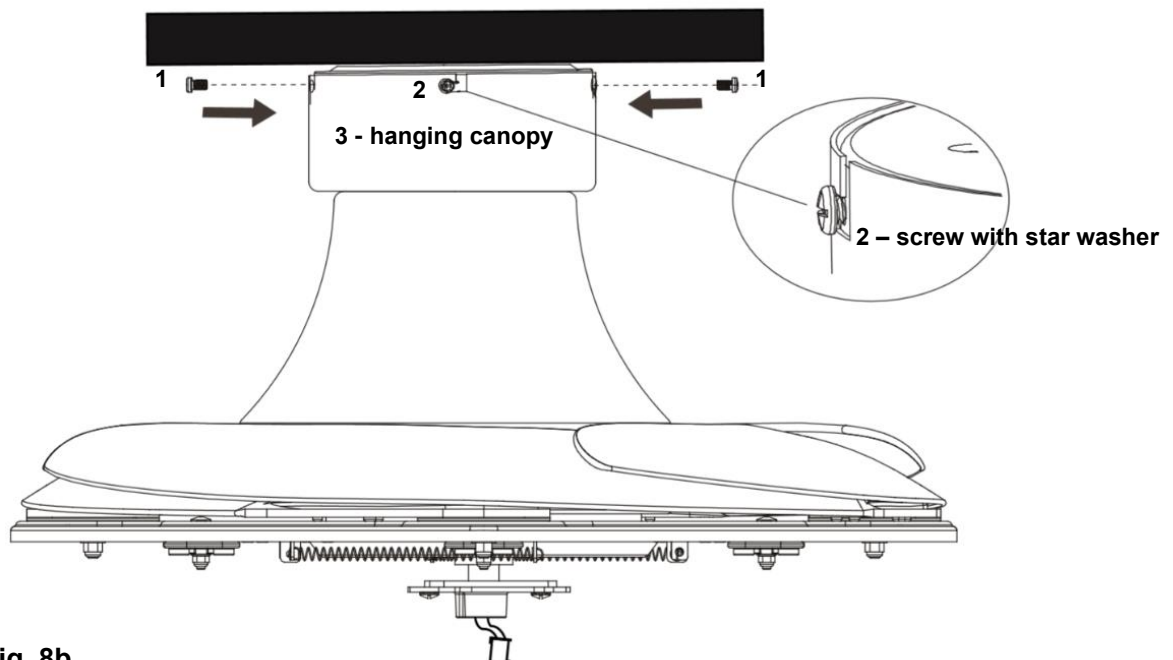

Fig. 8b
- Lift the hanging canopy (3) of the fan assembly up to the mounting bracket and let the L-shape slot on the hanging canopy (3) go through the two canopy screws with star washer (2). (**Fig.8b**)
- Turn the hanging canopy (3) until it locks in place at the end section of the L-shape slot, ensure the star washer are between the hanging canopy (3) and screw head. Secure it by tightening the two canopy screws with star washer (2).
- Secure and tighten the canopy screws (1) to the mounting bracket. The hanging canopy (3) shall have 4 screws (1) & (2) in total. Avoid damaging the electrical wiring prepared previously when hanging the canopy.